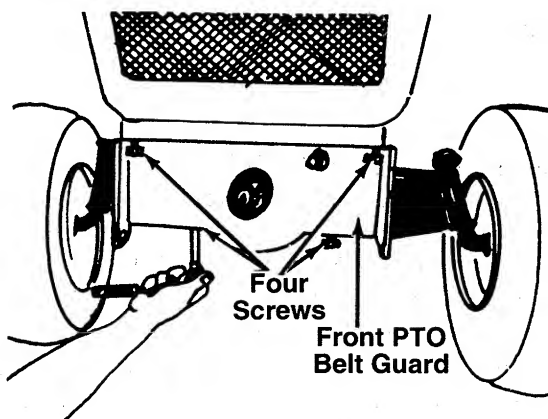

FIGURE 25.
1. Take off the front PTO belt guard assembly by removing four hex screws. See figure 25.